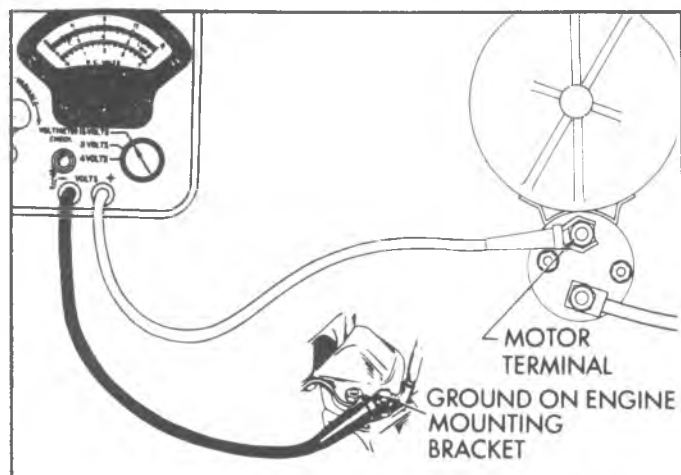

Fig. 14s—Cranking Voltage Test Connections
3. Connect voltmeter positive lead to the motor terminal on solenoid switch; connect voltmeter negative lead to ground (Fig.14s).